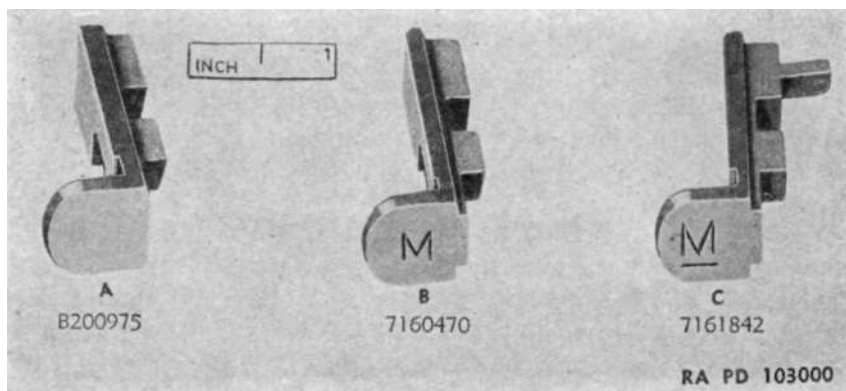

Figure 27. Old and new type of magazine catch — carbines, cal. .30, M1, M1A1, M2, and M3.
j. **MAGAZINE CATCH.** Test function of magazine catch. It should return to position when pressed and released. Check catch for free movement in guidway, deformation, worn or burred retainer plunger recess, and worn or burred magazine retention lugs. (See fig. 27.) Check magazine catch spring plunger for retention on spring, wear, and burs, and check spring for functioning, deformation, and set. Free length of spring is 0.813 (approximately $\frac{7}{8}$) inch. When assembled, last coil of spring is contracted slightly and fits into groove in shank of plunger for retention. Magazine catch (B7160470), and magazine catch retainer plunger with safety plunger, assemblies (B7160472) should be used. This is the catch that protrudes outward farther than the old design, thereby providing greater engagement between the catch and the nibs on the back of the magazine. It can be readily identified by the letter "M" on the right-hand side. Illustrated in figure 27 are: old type magazine catch B200975, which is to be discarded; new type magazine catch 7160470, which has a letter "M" stamped on the thumb piece as an identifying feature; and new type magazine catch 7161842, which is currently supplied with the carbine M2. This can also be used on the carbines M1, M1A1, and M1A3. Its identifying features are an underlined "M" stamped on the thumb piece and a supporting tang.
e. MAGAZINE CATCH. See that projection on left end of catch is neither bent nor burred. Magazine catch must have this identification mark "M". (See fig. 27.)
c. Push magazine catch to left and release. Catch should return positively and smoothly to its original position. Magazine catch must be of the latest design (See fig. 27.)